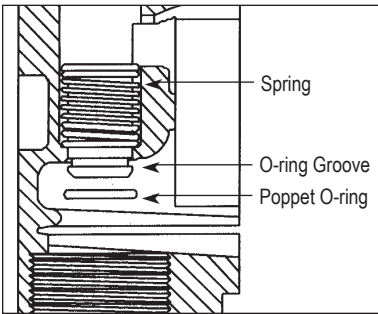

Figure 10
- Remove the O-ring with a small screwdriver or similar tool. Take care not to damage the poppet or O-ring. (Figure 10)
- To assemble, place the spring and poppet into the poppet cavity through the top outlet port. Compress the poppet into the housing until the poppet appears in the lower chamber. (see Figure 10) Coat the O-ring lightly with grease and slip over the poppet head. Make sure the O-ring is well-seated.